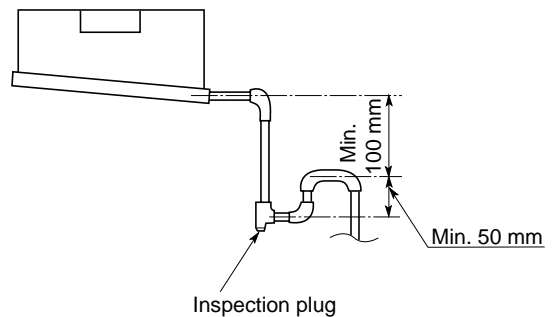

Fig. 3-103
(4) Also, in another part of the pipe arrangement, prepare traps with an inspection plug to clean dust which may cause leaking of water. (Fig. 3-103)
(5) After the drain piping, slowly pour water into the drain pan to check that the water drains smoothly.